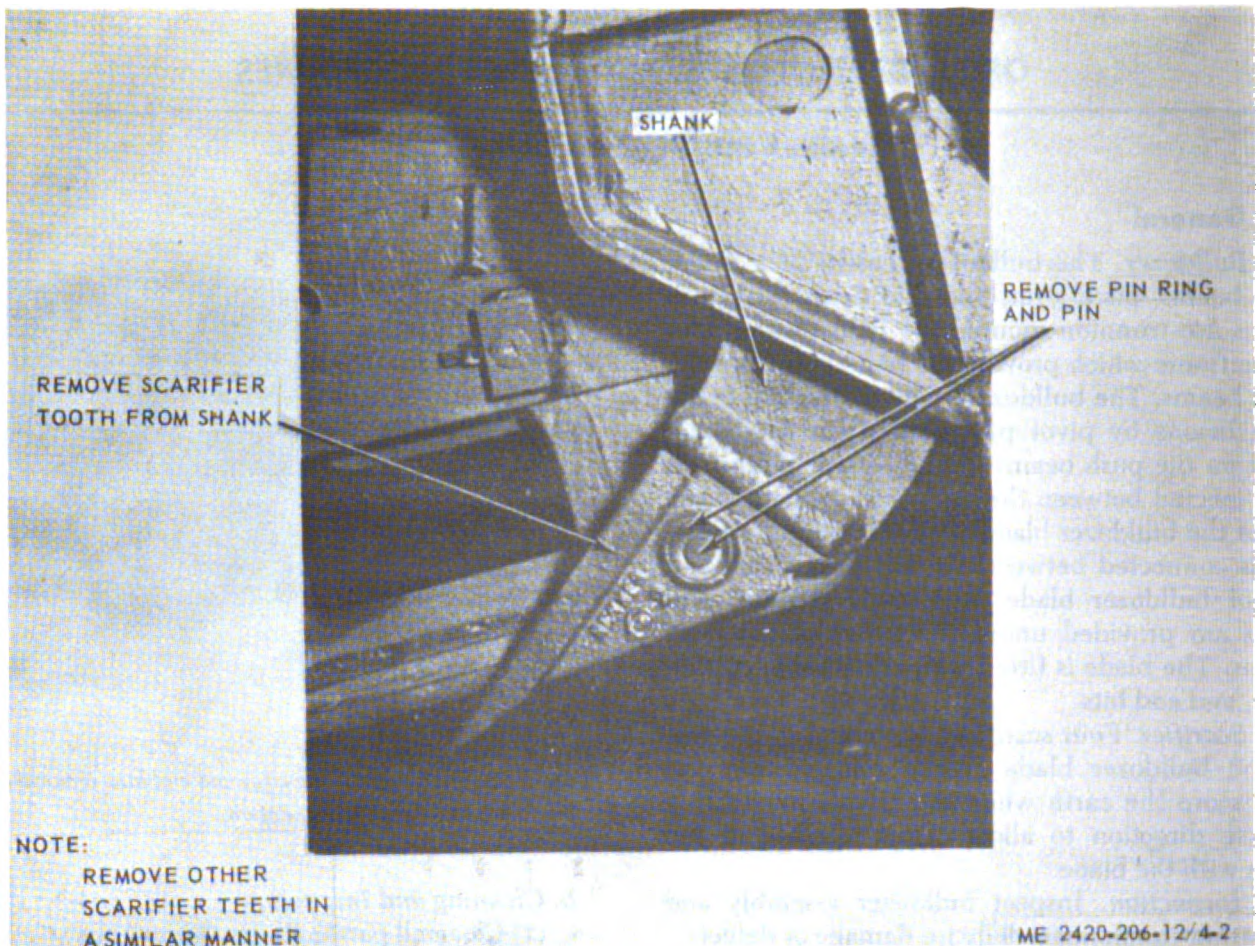

Figure 4-2. Scarifier tooth, removal and installation.
a. Removal. Remove scarifier tooth as illustrated in figure 4-2.
(1) Clean parts and dry thoroughly.
(2) Inspect for wear, cracks, breaks and other damage. Replace defective parts as necessary.
c. Installation. Install scarifier tooth as illustrated in figure 4-2.